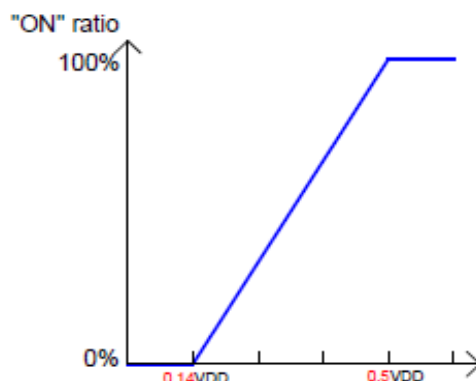

Figure.3
Applying a constant(DC) voltage to the PWM pin and the CXMD3203f will generate PWM pulses internally with the "ON" duty cycle ratio according to the diagram below(Figure.3), which can be utilized by the user to control the speed of the motor. The rotation speed will be higher if the voltage applied to the PWM pin is higher.